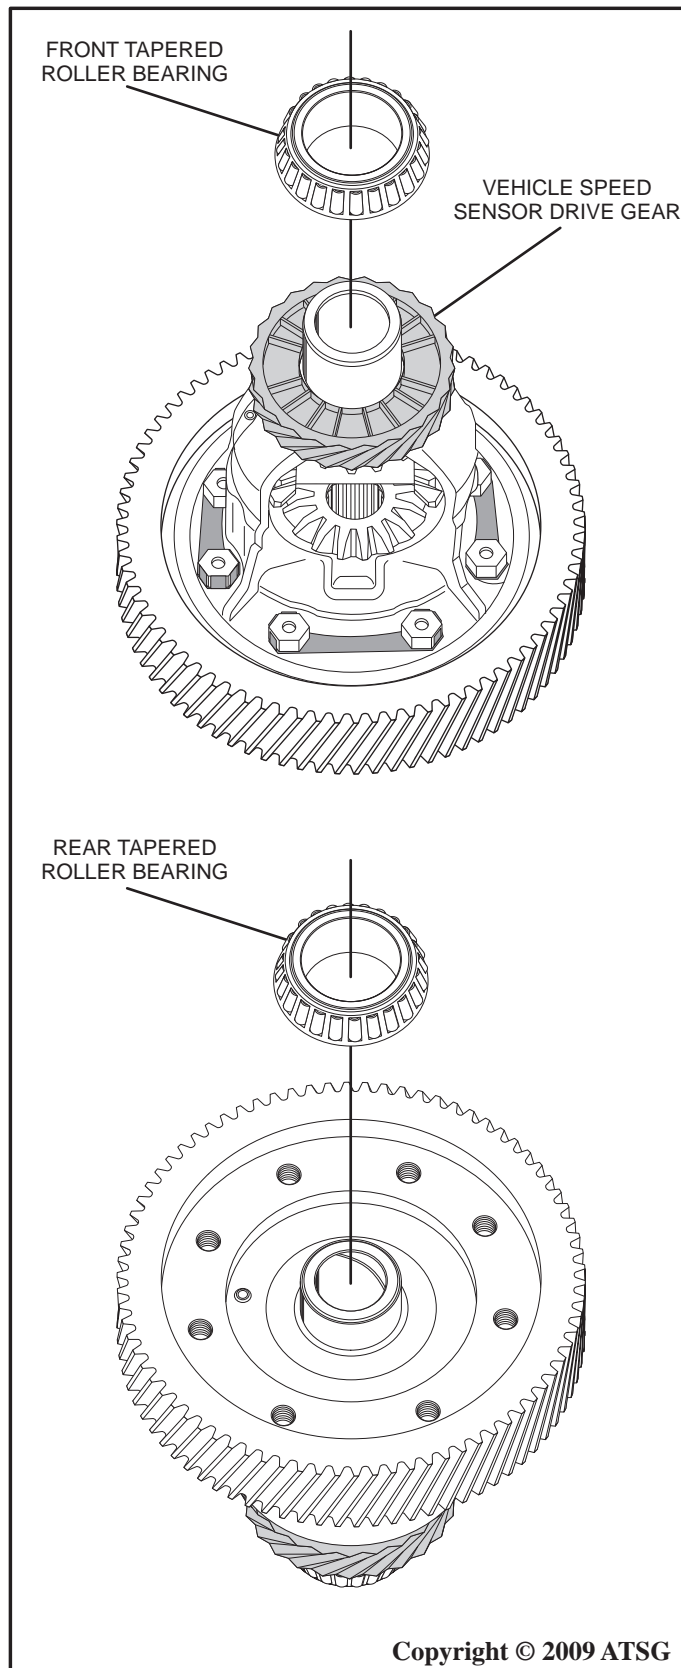

Figure 83
4. Inspect and replace if necessary, the vehicle speed sensor drive gear (*noting the direction of the gear*) and install it onto the differential carrier as shown in Figure 83.
5. Using SST 09350-32014 (09351-32150) or similar and a press, install the rear tapered roller bearing onto the differential carrier as shown in Figure 83.
6. Using SST 09350-32014 (09351-32090, 09351-32120) or similar and a press, install the front tapered roller bearing onto the differential carrier as shown in Figure 83.